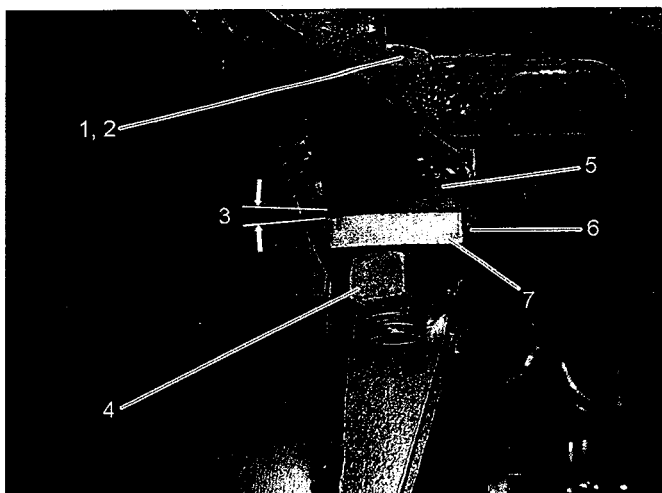

Figure 1-2 "Old-Style" Bolt, Nut and Spacer
3. Remove and discard the nut (4), bolt (1) and flat washer (2). Refer to **Figure 1-2**.
4. With a die grinder, grind off the retaining weld (6) and discard the spacer (7). Refer to **Figure 1-2**.